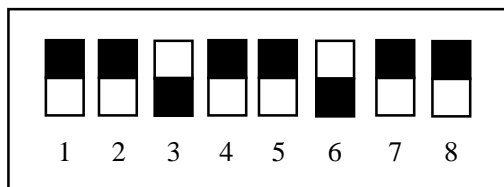

Figure 8.2 DIP Switch
- ① Set SW3,6 of the DIP switch as shown in Figure 8.2 before turning the equipment power on.